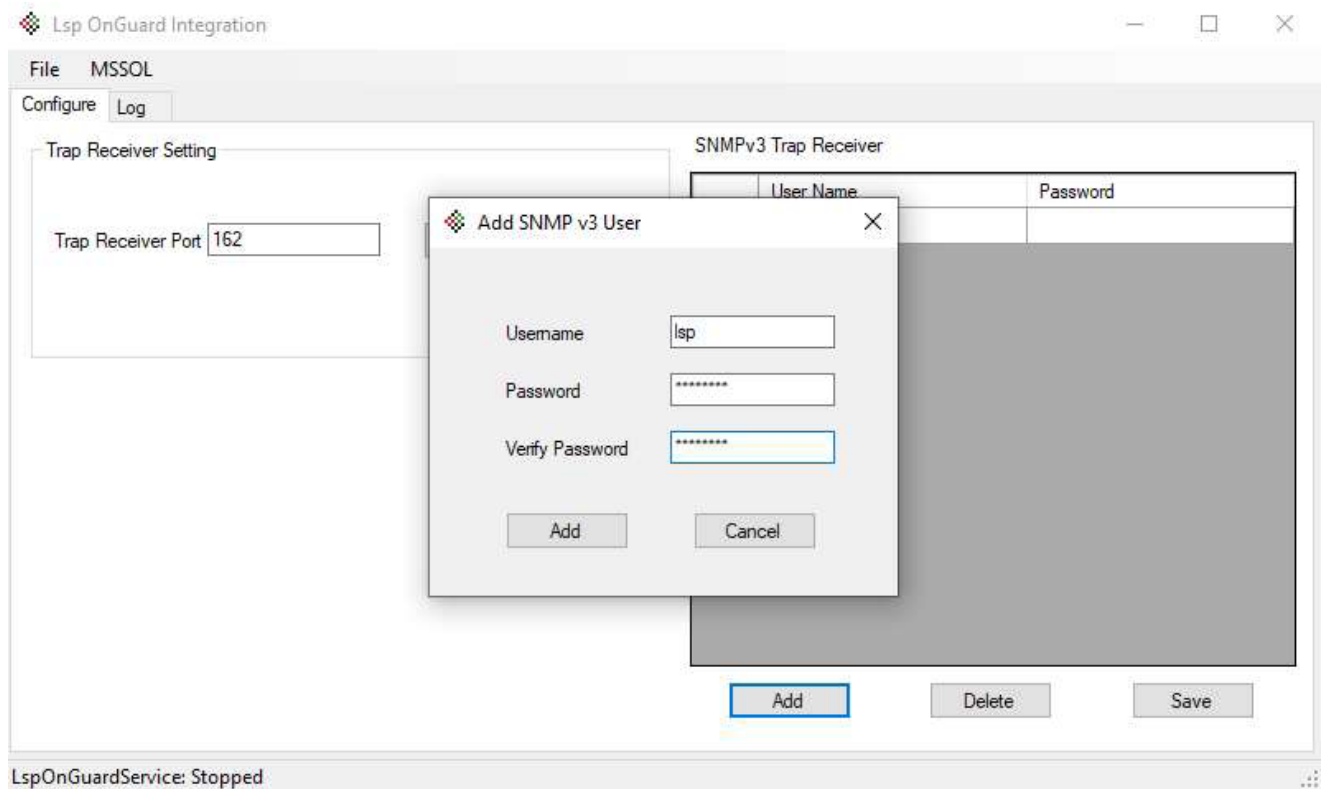

Figure 12
8. Once logged in, the LSP OnGuard Integration form will be displayed. See Figure 12.